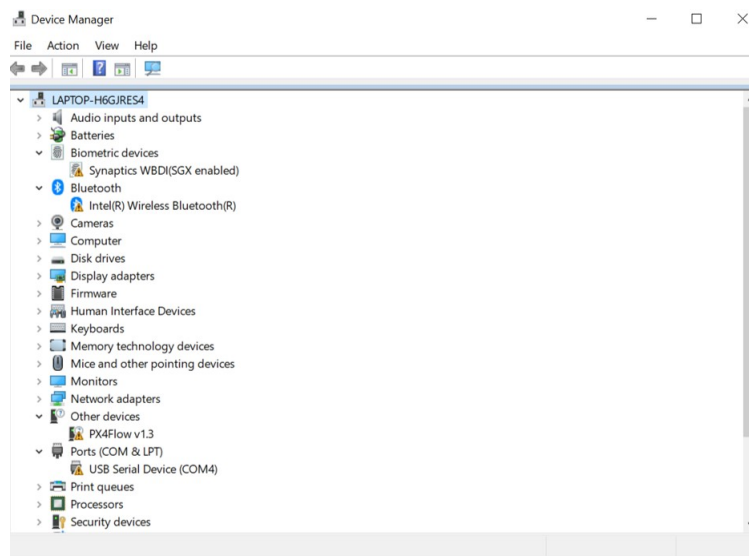

Figure 3: Figure of the driver installation problem for the PX4Flow sensor.
4. What if the driver is not successfully installed as shown in Fig. 3?